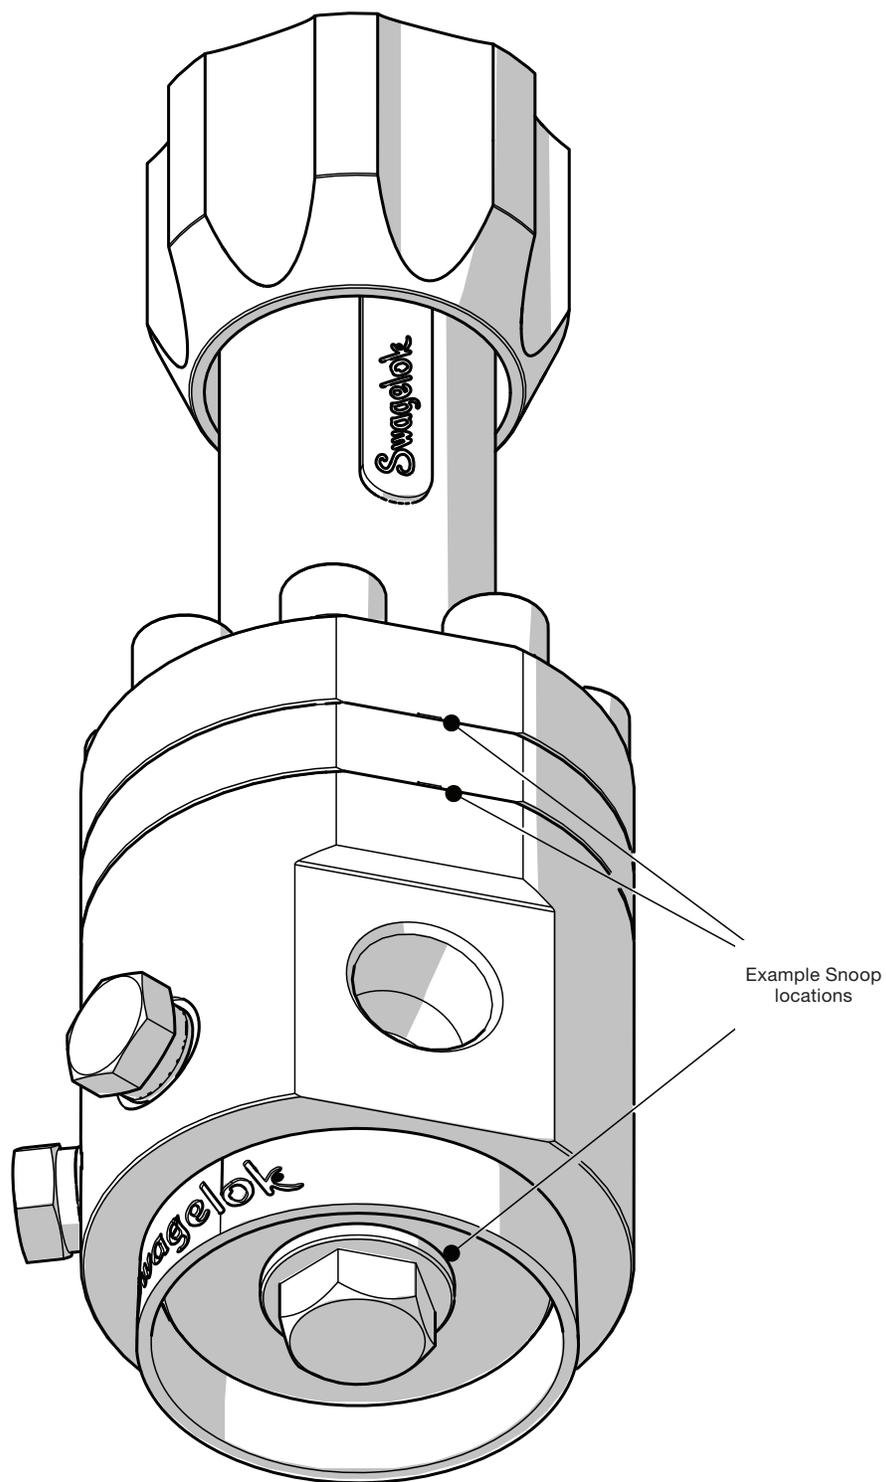

Figure 26
3. Using liquid leak detector, check for bubbles at the spring housing/dome weep hole, vent plate weep hole and body plug to body interface according to Figure 26.